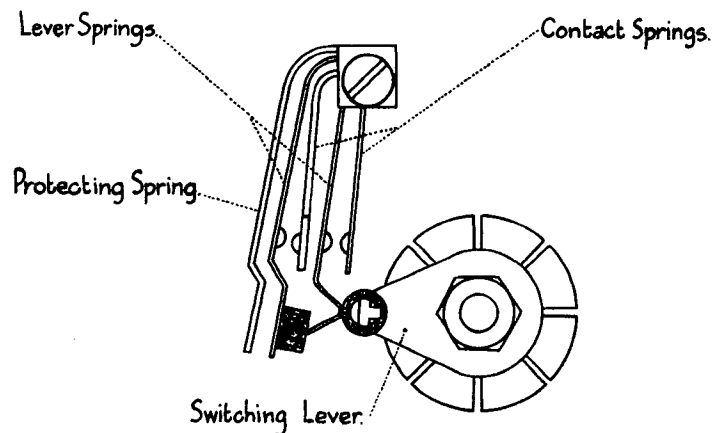

Fig. 11. Adjust the Switching Lever so that when the Dial is normal the Lever Buffer rests at the top of the set of the first Lever Spring.
- 2.6 Adjust the switching lever so that when the dial is normal it rests at the top of the set in the first lever spring, (Figure 11).